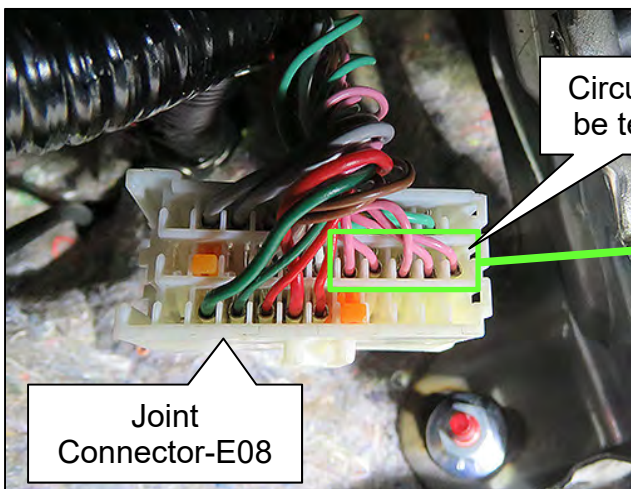
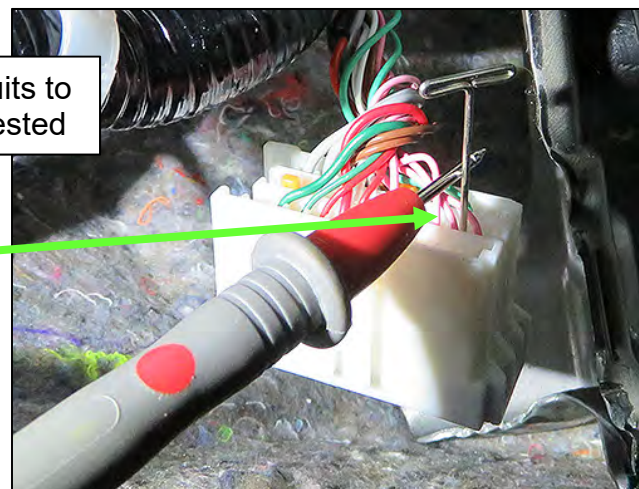

Figure 10
Figure 11
11. Test each of the five (5) Joint Connector-E08 circuits highlighted in Figure 10, as shown in Figure 11, until continuity with LS01A is found.
- The five (5) circuits to be tested all have pink wires.